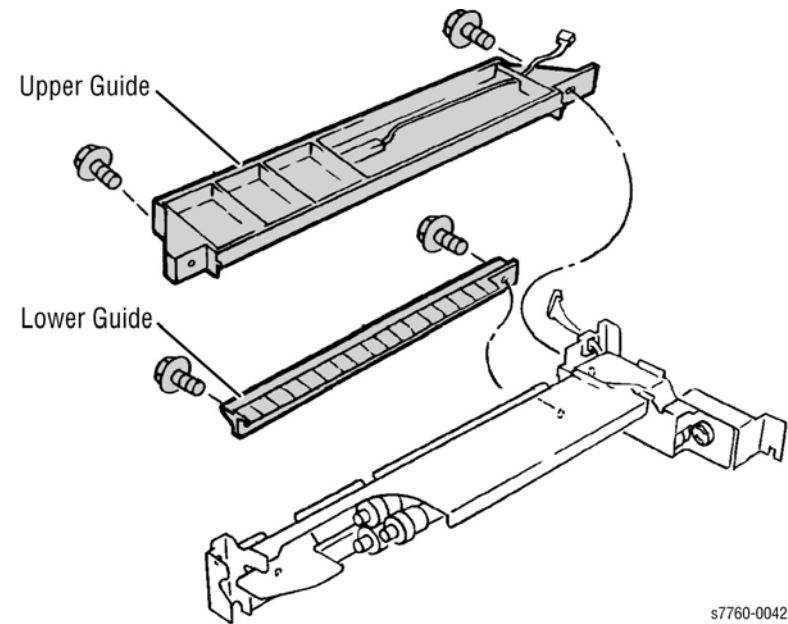

Figure 3 Removing the Guides
5. Removing Tray 5 Feeder Guides (Figure 3).